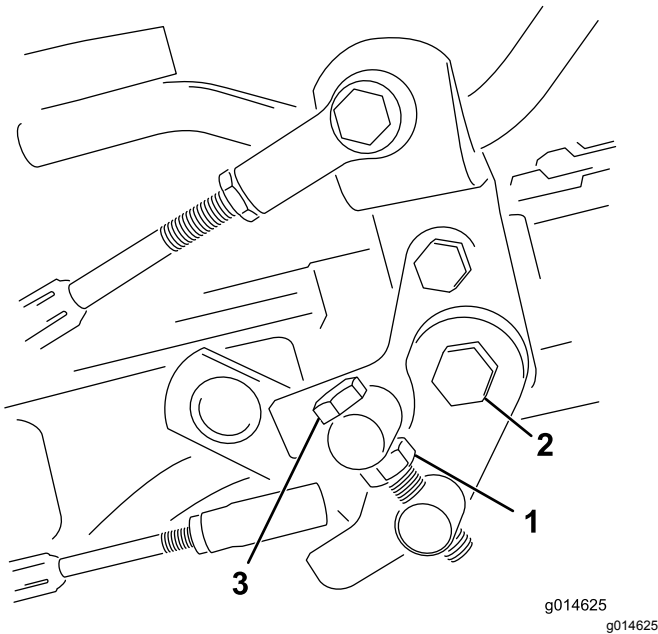

Figure 33
1. Loosen the jam nut on the trunnion bolt (Figure 33).
4. Tighten the jam nut on the trunnion bolt and the nut on the pedal pivot to lock the adjustment (Figure 33). Check the adjustment and adjust as required.